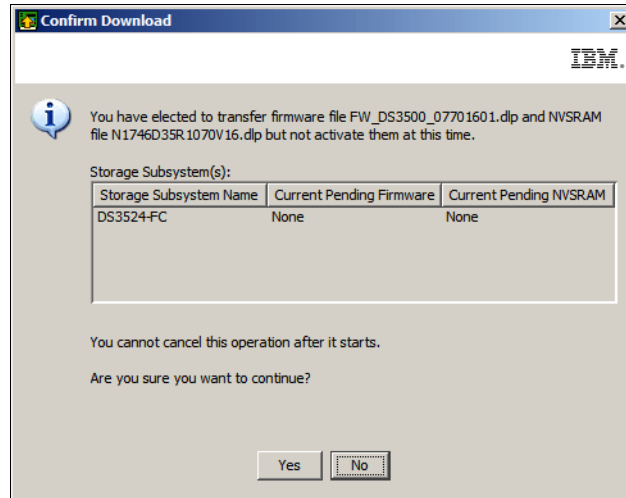

Figure 14-47 Confirm Download
- b. Click the **OK** button. You will be asked to confirm that you want to transfer the firmware and NVSRAM now but activate the new versions later (Figure 14-47).